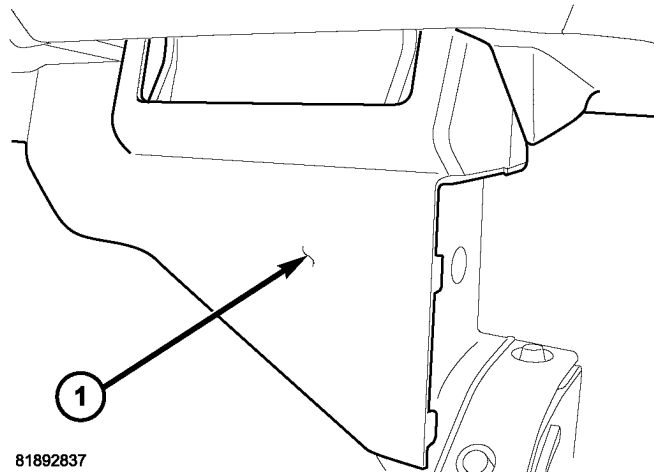

Fig. 2 FRONT TUMBLE MECHANISM SHIELD
2. Remove the front tumble mechanism shield (Fig. 2).
12. Install the front tumble mechanism shield (Fig. 2).